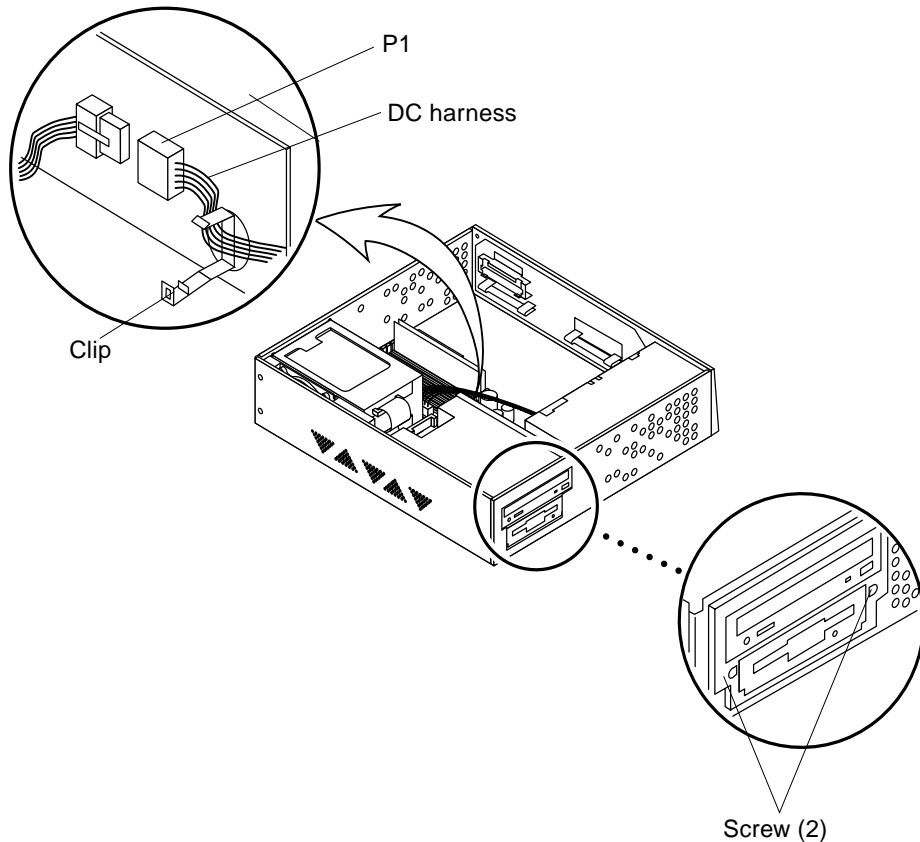

FIGURE 9-5 Chassis Bracket
1. Remove the DC harness as follows (FIGURE 9-5):
4. Replace the DC harness as follows (FIGURE 9-5):